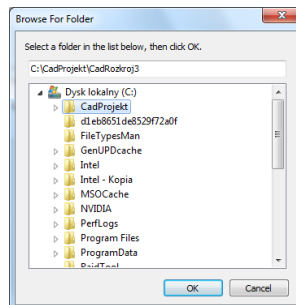

Fig. 11 – selecting installation folder
- To indicate a different installation location, click '**Browse**' and in a new window select the folder in which you want to save the files (Fig. 11).